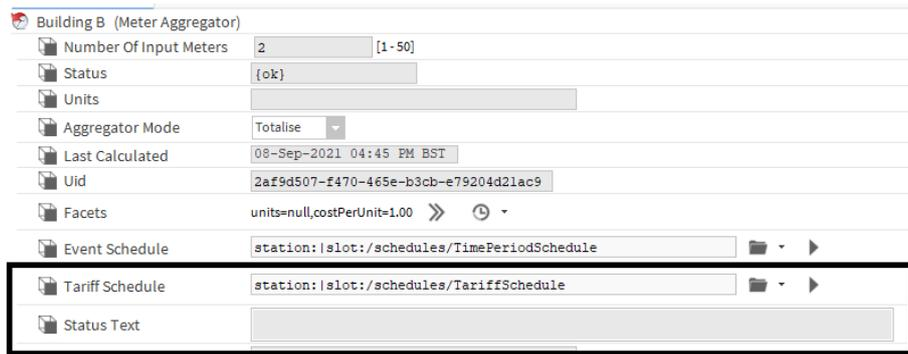

Figure TF1 – ASSIGN NumericSchedule FOR AGGREGATOR
4. Select Component Chooser. Using the pop-up, navigate through your station hierarchy selecting the appropriate Numeric Scheduler (see Figure TF1).